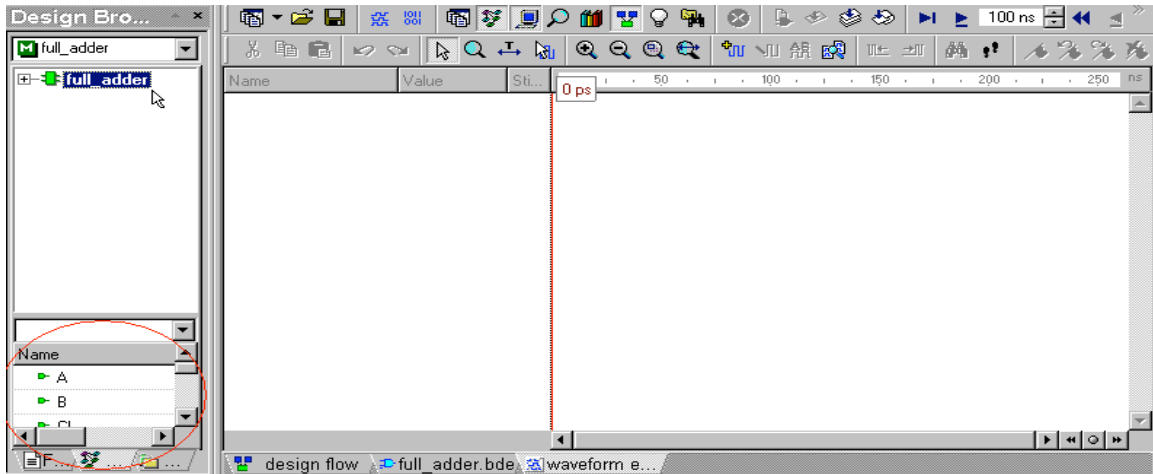

Figure 32
6. Click the file name in the top window in the Design Browser under the Structures tab. Notice in Figure 32 how the signals and wires (Nets) appear in the bottom window of the Design Browser.